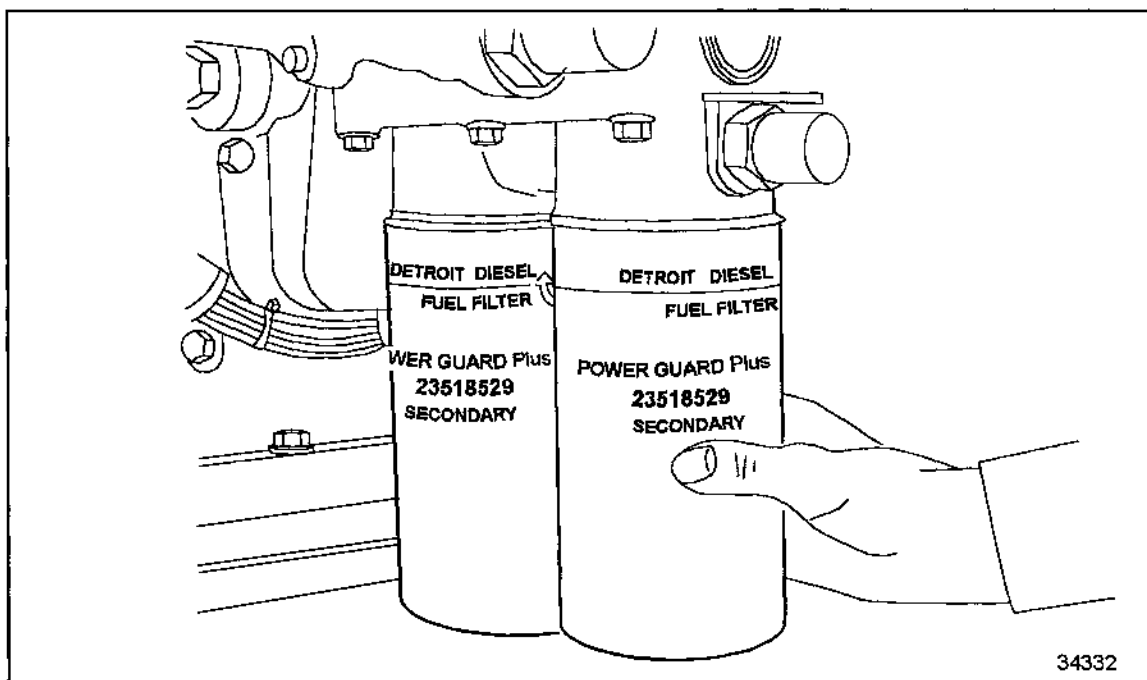

Figure 13 Fuel Filters
5. Replace the second filter in the same manner. See Figure 13.